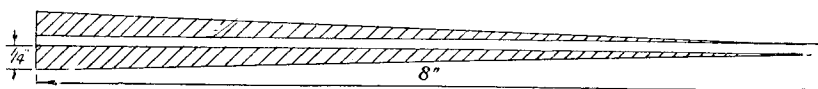
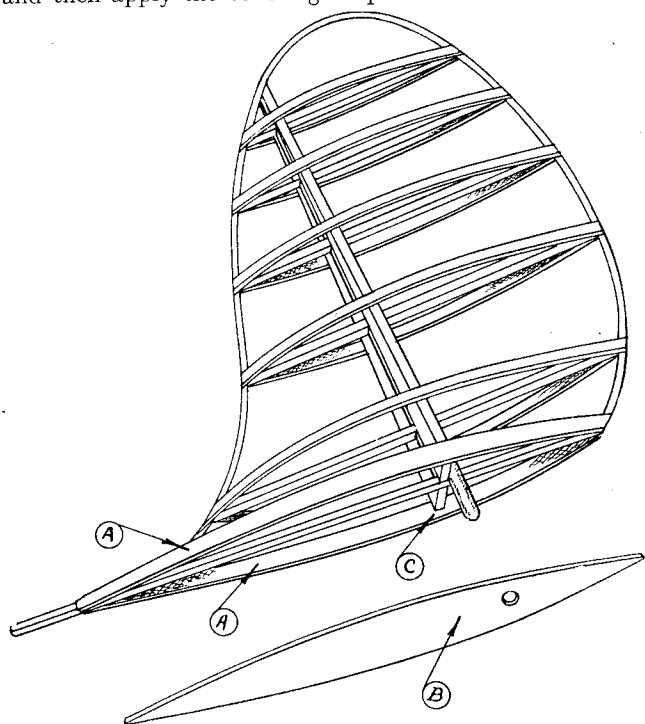

Fig. 155.
Fig. 156.
In the first place, the main spar must be built up into a tapering section. This is done in the manner indicated in Fig. 155; that is, by cementing long, wedge-shaped pieces of $\frac{3}{32}$ in. balsa (shown shaded) to the top and bottom of the existing spar. Next, the tail section must be formed by cementing strips of $\frac{1}{32}$ in. balsa, $\frac{1}{8}$ in. wide, across the tail above each cross strut. These strips are cemented to the leading edge, over the built-up main spar, to the trailing edge. This will produce a cambered surface over which the covering tissue may later be stretched. The camber is equal on both top and bottom surfaces of the tail planes. I trust that the drawing in Fig. 156 will make these processes clear. The portion marked (B) represents a shaped piece of $\frac{1}{32}$ in. balsa sheet, which is cut to fit between the strips (A) (A). It may be easier to cement first this strip to the main structure, and then apply the covering strips